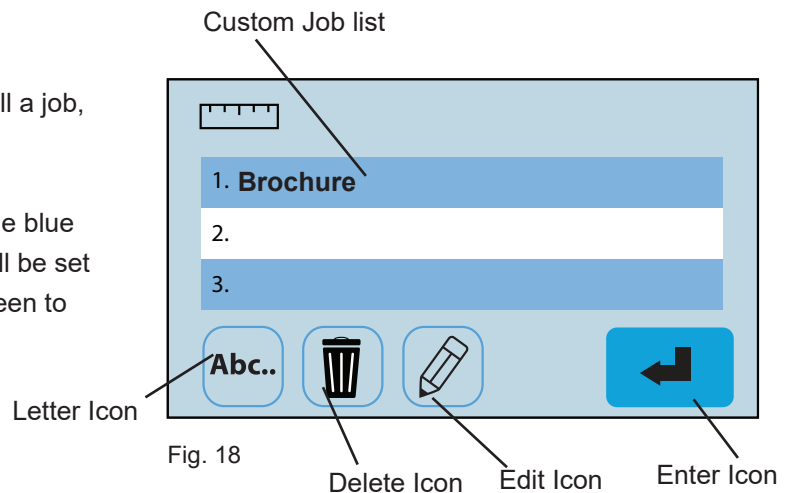
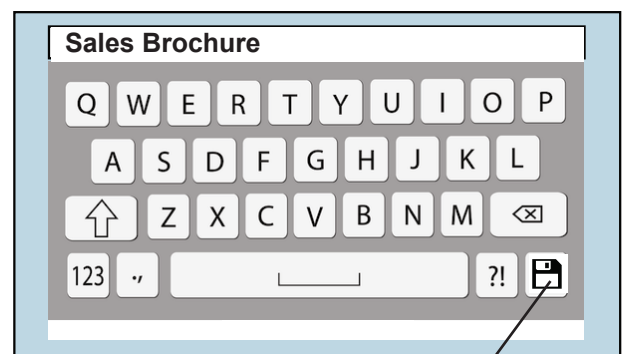
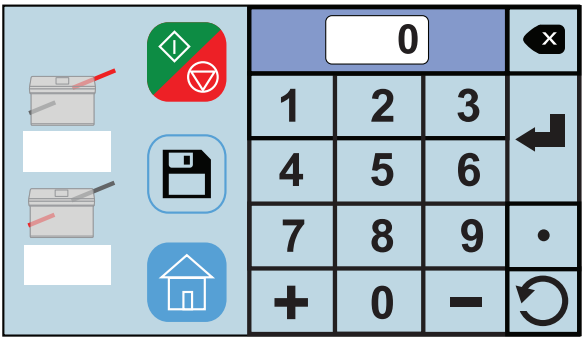

Fig. 18
Fig. 19
Fig. 21
To recall, select the job from the list and press the blue enter button  (Fig. 18). The fold tables will be set and the control panel will return to the home screen to start processing the job.
3. To rename a job, select the job from the list and press the letter icon  (Fig. 18). Use the keypad to change the name and press the save icon in the lower right corner (Fig. 19).
- 5. To edit a previously saved job, select the job from the list and press the edit icon  (Fig. 18). From the fold setup screen use the same process as setting a custom fold (page 9) to edit the job settings (Fig. 21). See page 10 for measuring guidelines.